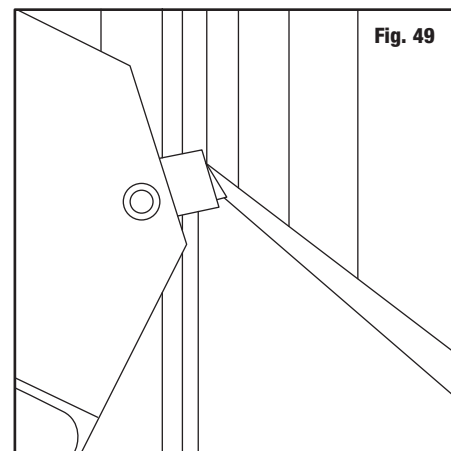

Fig. 49
7. Lower cutting head until blade just touches plastic (Fig. 49).